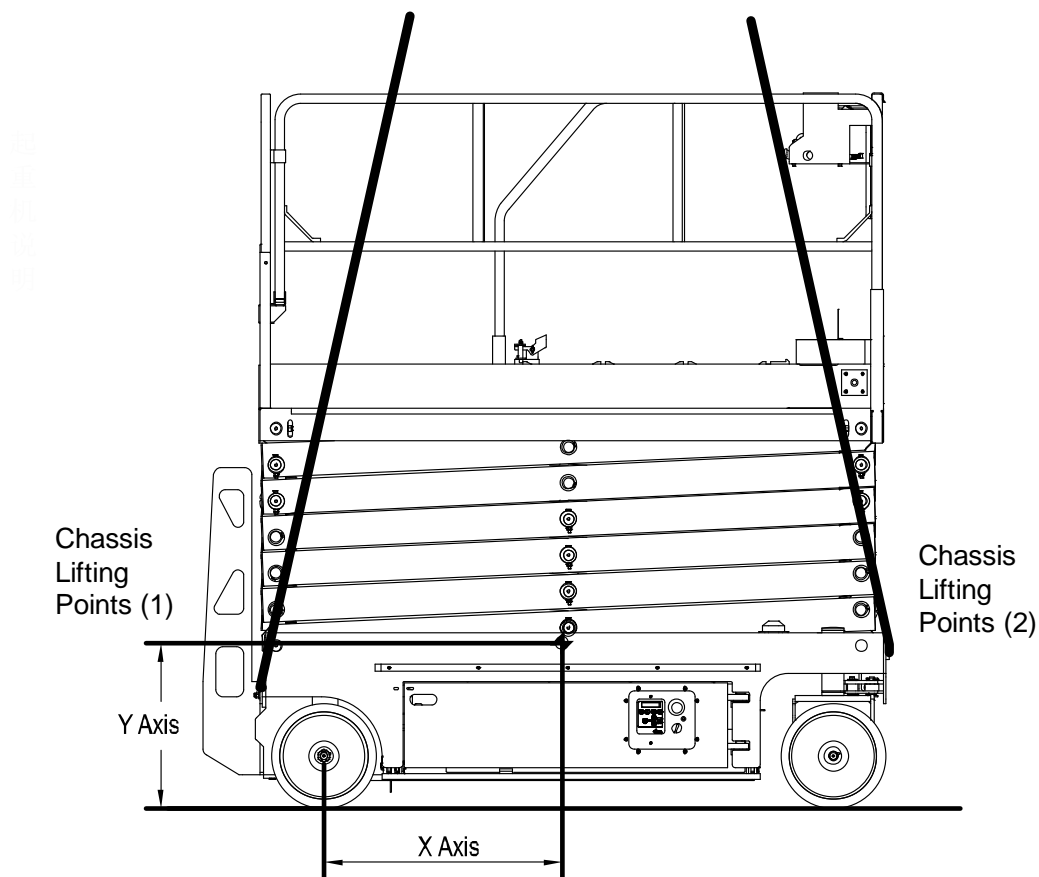

Figure 4-4 Center of gravity
- 2) Use Table 4-4 and Figure 4-4 to determine the center of gravity of the machine.